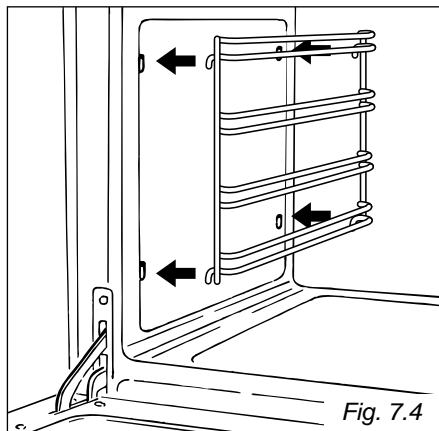

Fig. 7.4
- Fit the side runner frames into the holes on the side walls inside the oven (Fig. 7.4).